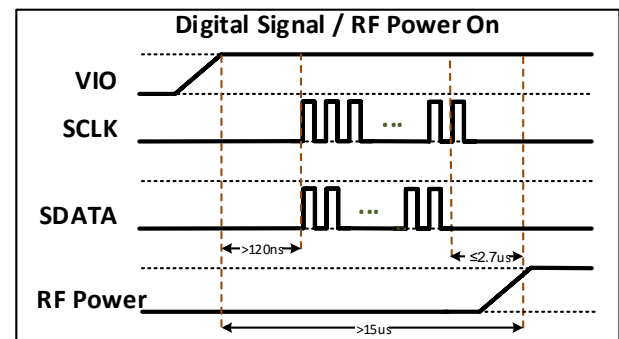

Figure 2 Digital Signal / RF Power-On Detail
2. VIO must be applied for a minimum of 120 ns before sending SDATA/SCLK to ensure correct data transmission. (see figure 2)
3. VIO must be applied for a minimum of 15 μ s before applying RF power. (see figure 2)
4. Wait a minimum of 2.7 μ s after RFFE bus is idle to apply an RF signal. (see figure 2)